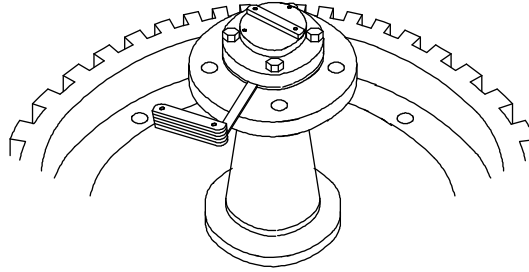

Figure 57 - Feeler Gauge on Dual Bearing Gland
- With a feeler gauge, measure the gap adjacent to each bolt and average the readings. See Figure 57.